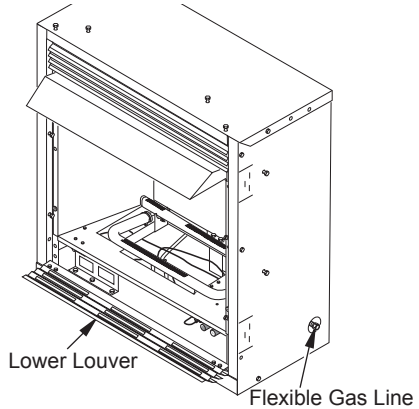

Figure 23 - Flexible Gas Line Location
1. Open lower louver (see Figure 23).
NOTICE: Most building codes do not permit concealed gas connections. A flexible gas line is provided to allow accessibility from the fireplace (see Figure 23). The flexible gas supply line connection to the equipment shutoff valve should be accessible.